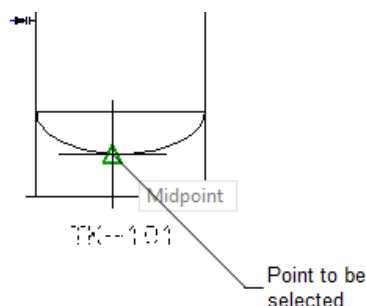

Figure 2-44 Point to be selected on the vessel
1. Invoke the **Primary Line Segment** tool from the **Lines** tab in the **TOOL PALETTES - P&ID PIP** and specify the start point at the bottom of the vessel, as shown in Figure 2-44.